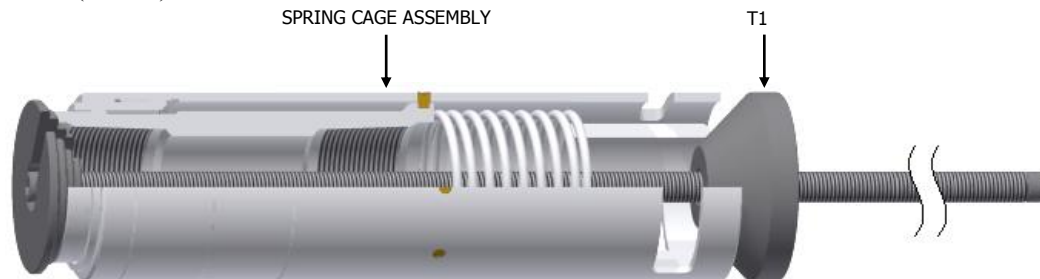

Fig. 2
K-1.17.1) Position assembly tool (T1) hand-tight against top sub (1) and spring cage (5) of spring cage assembly (Fig. 2).